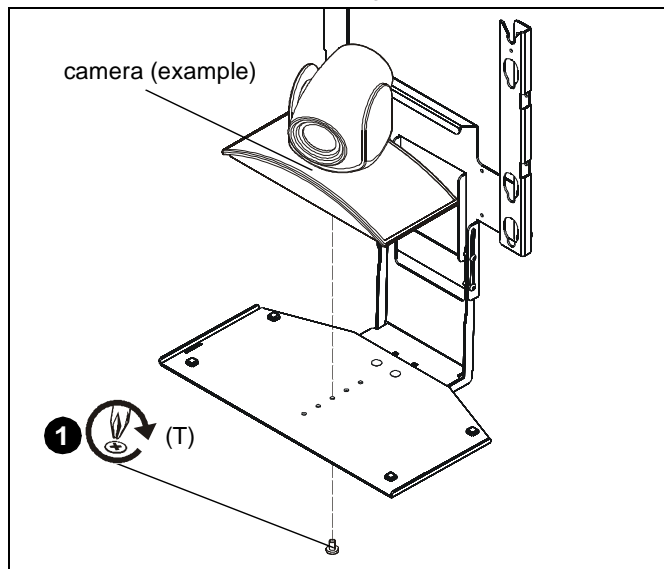

Figure 10
1. Install 1/4-20 x 3/8" Phillips pan machine screw (T) through one of the mounting holes on shelf and into the hole on the bottom of the camera. (See Figure 10)